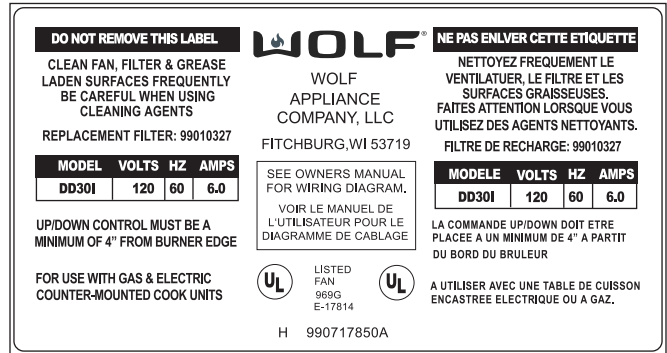

Figure 1-1 Serial Plate Layout
- See Figure 1-1 for typical Information Plate layout.